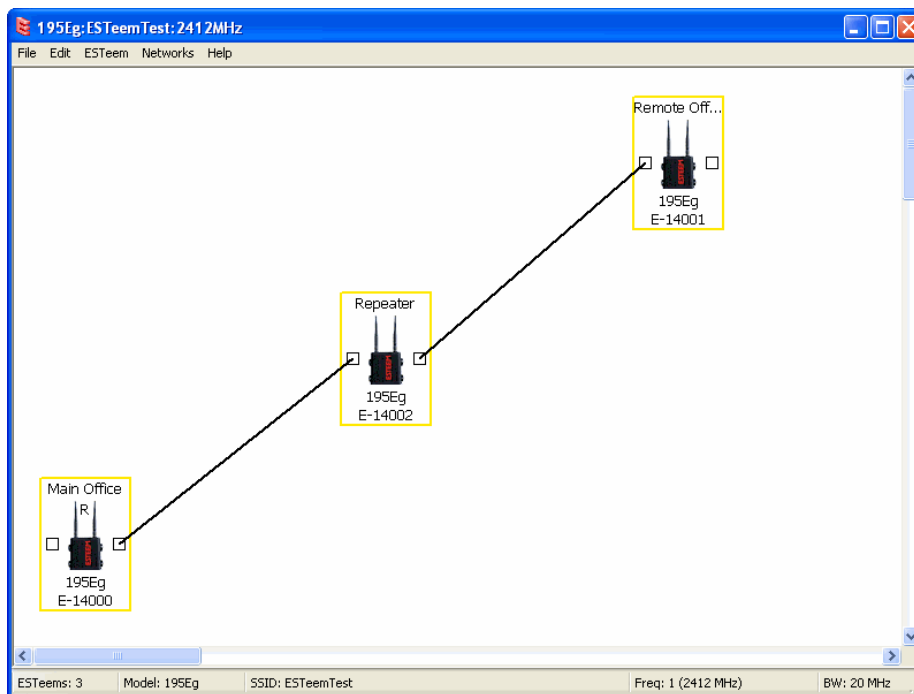

Figure 15: Example 2 Layout
- Move the ESTeem 195C/M icons on the screen to simulate the layout of the diagram. Draw connection lines between the modems to make the wireless link in the same order as the network layout (Figure 15).